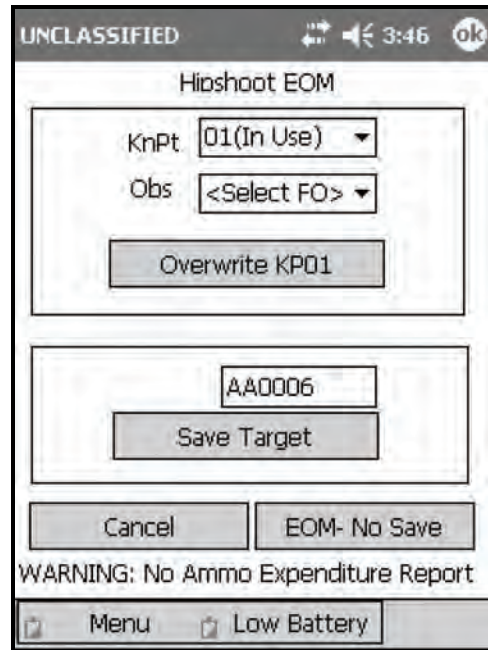

Figure 18-19. Hipshoot End of Mission screen.
- (1) Select EOM from the Hipshoot screen.
- (2) The Hipshoot EOM screen (Figure 18-19) displays.